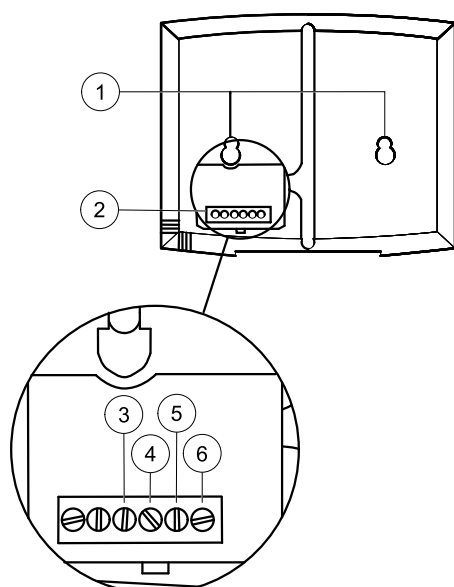

Fig. 10 Control panel wire connections
The control panel is delivered connected to the Corrigo control unit situated in the electrical connection box. Cable length is 10 m. In case the control panel needs to be detached from the signal cable it is possible to loosen the wires on the back of the control panel (figure 10).
- 2 If needed, drill two holes in the wall to hang the control panel (center to center: 60 mm) (pos.1, figure 10).